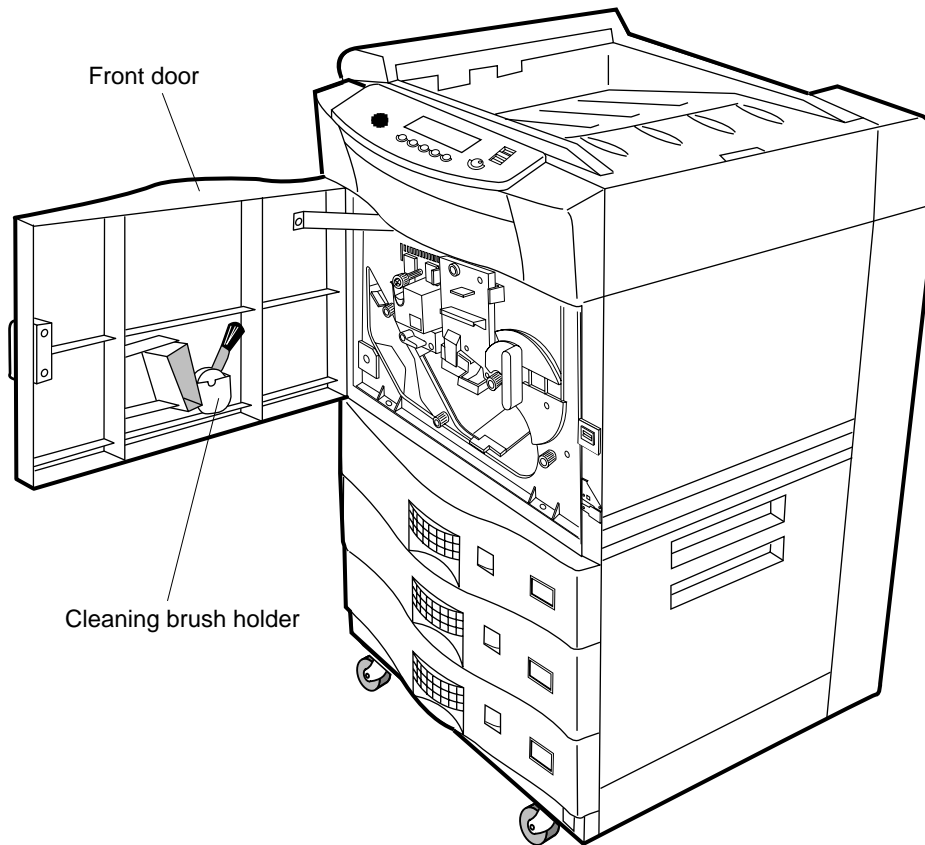

Figure 2-35 Cleaning Brush Holder
2. Remove from plastic bag and place the cleaning brush in the front door, as shown in Figure 2-35.